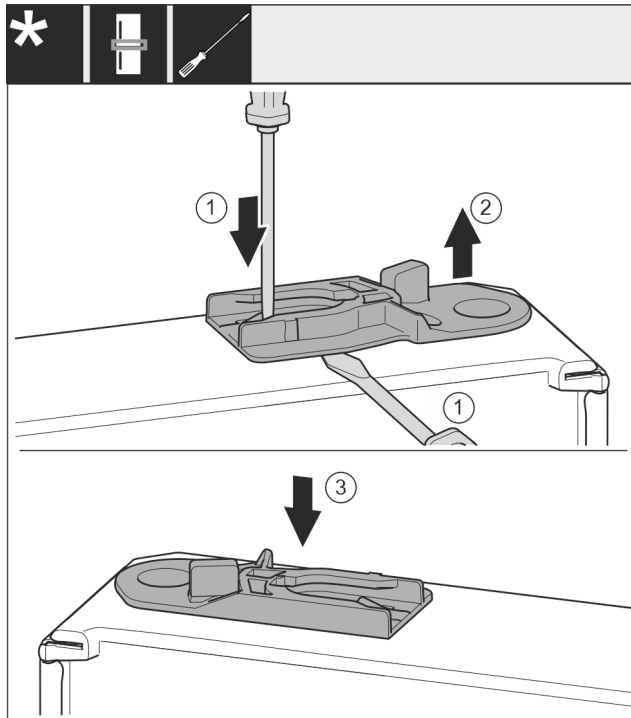

Fig. 41
- ▶ Appliances with closing damper: Pull out the guide bushing: Press the tab Fig. 41 (1) with the slotted screwdriver while running the slotted screwdriver under the guide bushing Fig. 41 (2) at the same time.
- ▶ Appliances with closing damper: Insert the guide bushing Fig. 41 (3) supplied in the scope of delivery on the other side of the housing.